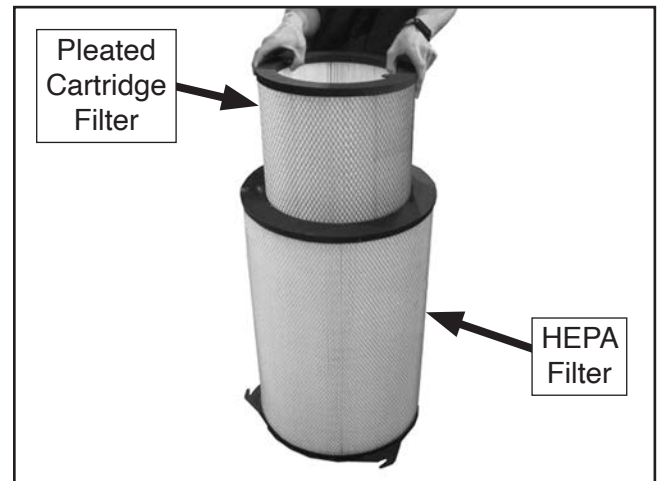

Figure 81. Replacing pleated cartridge filter.
11. Slide clean filter or replacement pleated cartridge filter into HEPA filter (see **Figure 81**), and install filter bag flange using fasteners removed in **Step 9**.